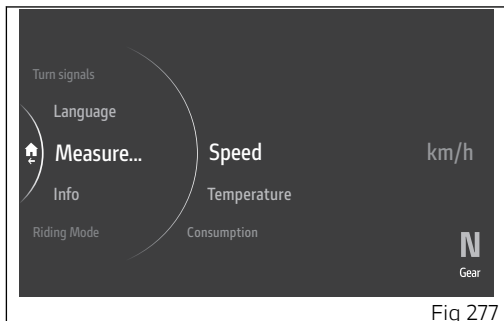

Fig 277
- Select the "Speed" item and press ENTER (Fig 277).